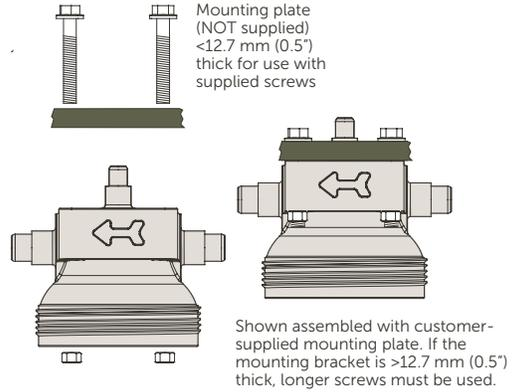

Figure 1.
1. Use supplied screws and nuts to secure the housing head to your equipment or facility mounting bracket (Figure 1).